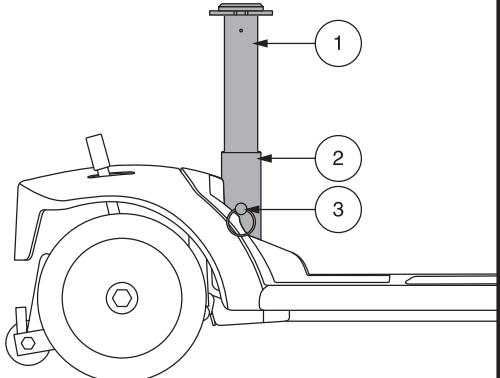

Figure 26. Seat Height Adjustment
The seat can be repositioned to different heights. See **figure 26**.
2. Remove the upper seat post from the Travel Scooter by removing the detent pin from the lower portion of the seat post, then lifting the post straight up and off the Travel Scooter. **See figure 26.**